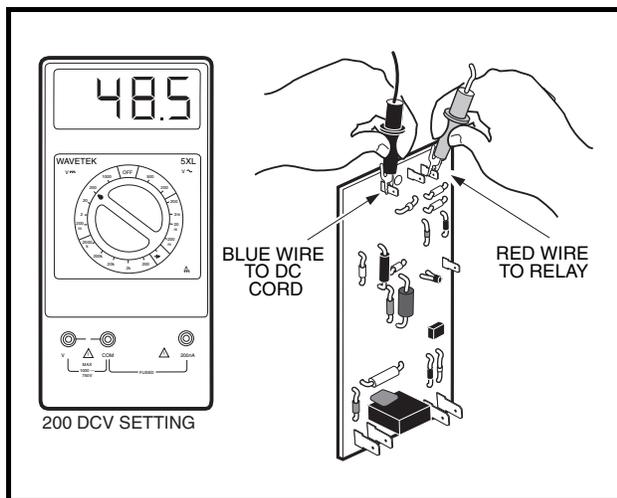

Figure 4-5 DC Circuit Test
2. Place black (–) probe of multimeter on terminal with blue DC cord wire and red (+) probe to terminal with red relay wire (**Figure 4-5, Page 4-10**).